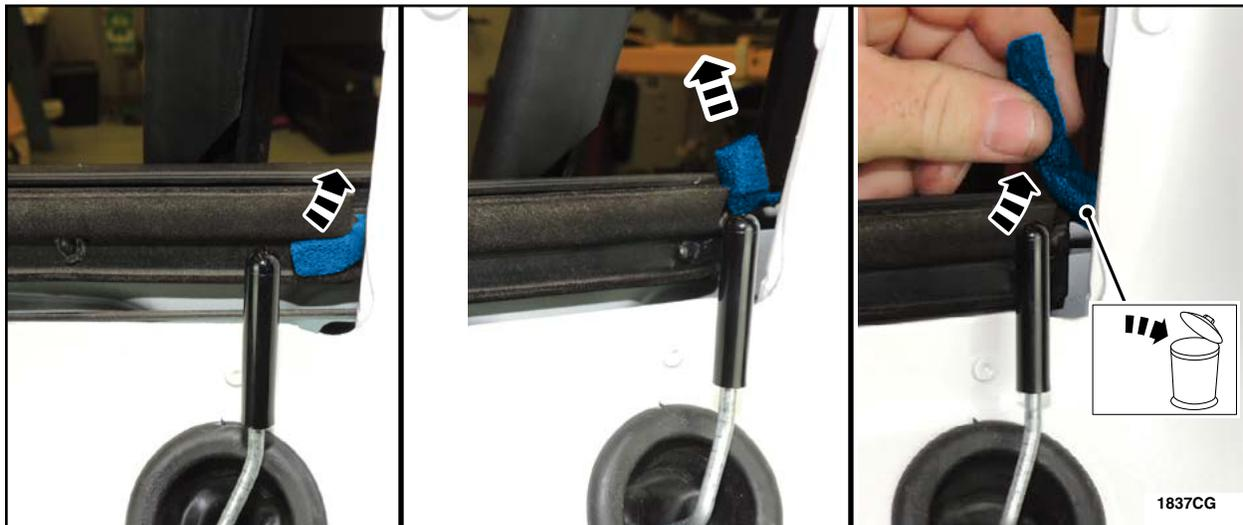

FIGURE 20
10. If present, remove and discard existing foam on the driver and passenger side outer belt moulding (also known as upper belt moulding) at this location. See Figure 20.